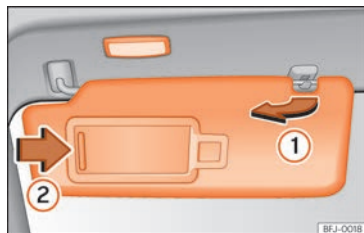

Fig.102 Sun visor
- The sun visor can be pulled out of its mounting and turned towards the door  Fig.102 ①.